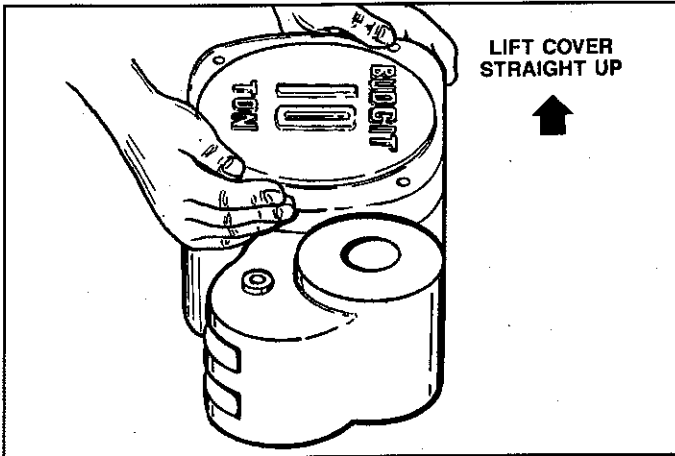

Figure 7-1. Removing Hand Chain Cover.
- c. Remove three socket head cap screws and lockwashers and lift straight up on chain wheel guide cover. See Figure 7-1. Remove hand chain from chain wheel.